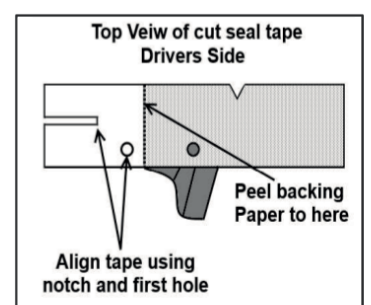

Figure 17
- Partially peel the backing paper from the driver's side seal. Align the notched section and the first hole to the vehicle and apply the seal tape to cover the gap between the headboard and the cabin end of the tub. Refer Figure 17.